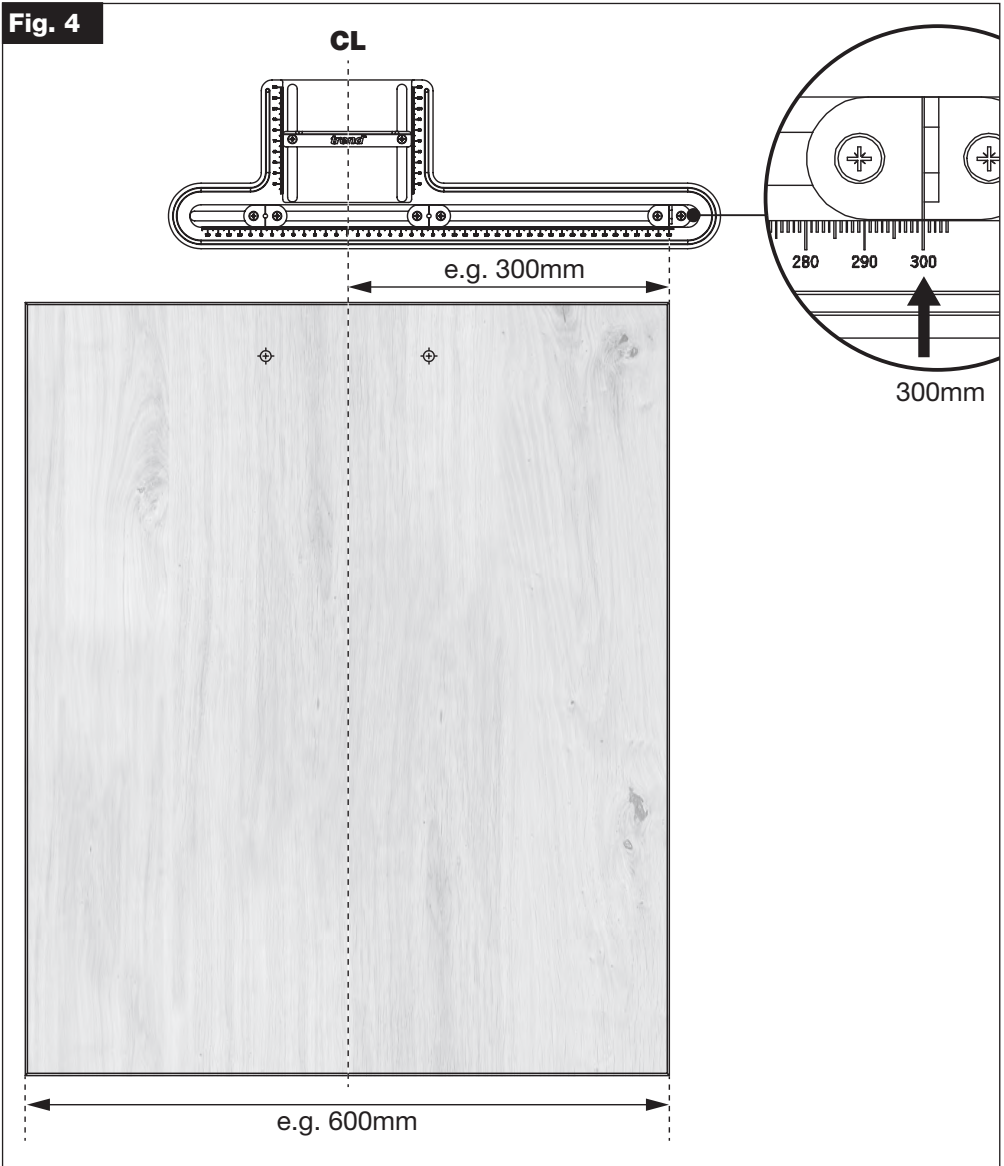

Fig. 5
- Calculate the required centre line of the handle/knob relative to the correct door/drawer edge, and move the Short Guide accordingly (Fig. 5).